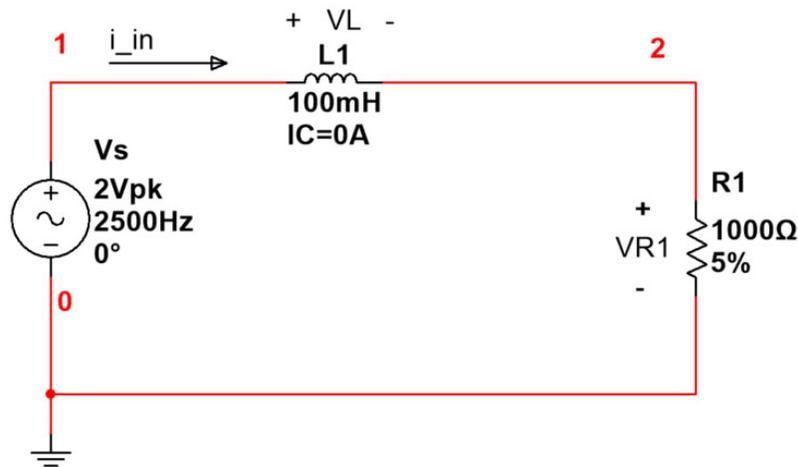

Figure 1 - RL Series Circuit
- 2) **Calculations - Study the circuit in Figure 1.** On green engineering or quadrille lined graphing paper:
- 3) **Simulation – Simulate the circuit in Figure 1.** Using Multisim transient analysis, simulate the circuit shown:
- 4) **Comparison – For the circuit in Figure 1.** Using Excel, compare your calculated and simulated peak values and angles for  $i_{in}(t)$ ,  $V_L(t)$  and  $V_{R1}(t)$ :
- 2) Build the circuit shown in Figure 1. Make sure you dial in the appropriate signal level and frequency. Check these values in-circuit with the oscilloscope BEFORE proceeding. **\* Use the 10Meg-Ohm probe and setting \***
- 9) **Comparison – For the circuit in Figure 1.** Using Excel, compare your calculated and measured peak values and angles for  $i_{in}(t)$ ,  $V_L(t)$  and  $VR_1(t)$ :
- d. The circuit schematic from Figure 1, the impedance diagram from the prelab AND a new impedance diagram based on your measured data, all on a single page, properly labeled. Directly below this information, explain the differences between the two impedance diagrams and how these differences may have led to the discrepancies you noticed between your calculated and measured data, one per team.